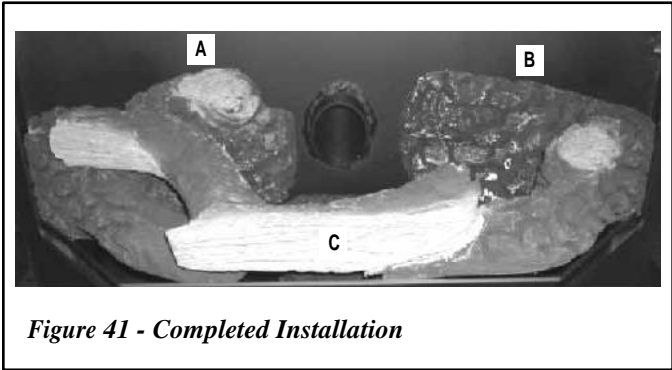

Figure 41 - Completed Installation
3. Remove the ceramic logs from the box and carefully unwrap them. Position each back log (A and B in Figure 41) in their proper place, one on each side against the back of the firebox.
4. The front log should face the front of the firebox with the wood grain showing. It should rest on the other two back logs. See Figure 41 for assembled log set.